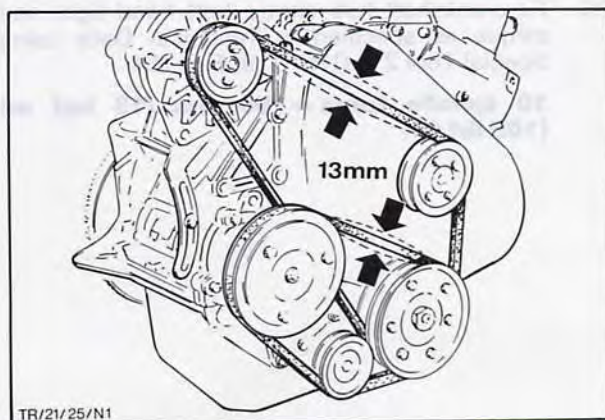

Fig. 154. Adjust alternator and vacuum pump V-belt tension
32. Position alternator and vacuum pump V-belts and adjust tension to achieve free movement of 13 mm (0,5 in) midway between pulleys, Fig. 154.